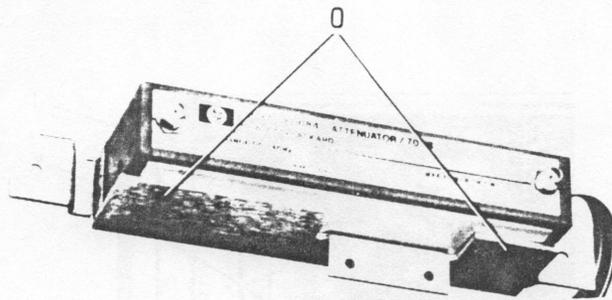

Figure 9. HP 85660A/B RF Attenuator Mounting Bracket
- b. Remove Attenuator Bracket from A6A2 RF Attenuator by removing two screws (O), Figure 9.
- c. Install Attenuator Bracket on new A6A2 RF Attenuator using two screws removed in previous step (O), Figure 9.
- e. Remove Attenuator Bracket from A6A2 RF Attenuator by removing two screws (O), Figure 9.
- f. Install Attenuator Bracket on new A6A2 RF Attenuator using two screws removed in previous step (O), Figure 9.